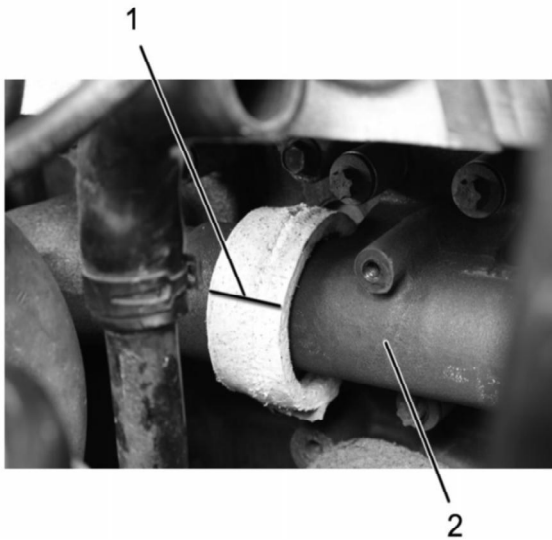

Figure 28: Front Exhaust Manifold Ring Seal Ceramic Mat Wrap Alignment
30. Align ceramic mat wrap joint (**Figure 28**, Item 1) with manifold midpoint (**Figure 28**, Item 2)